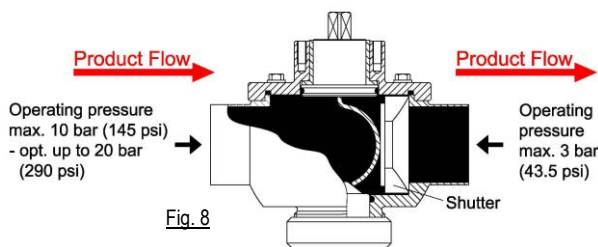

Fig. 8
| | Temperature | Pressure max (see Figure 8). | |
- Recommended installation (see Figure 8)